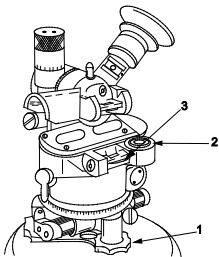

Figure 8. Leveling the Aiming Circle.
1. Turn Aiming Circle leveling screw knobs (Figure 8, Item 1) until the bubble is centered in the circular level (Figure 8, Item 2).
4. Uncover main housing tube level (Figure 8, Item 3). Adjust leveling screw knobs until bubble in main housing tube level (Figure 8, Item 3) is centered.
5. Turn Aiming Circle in azimuth and watch the bubble in the main housing tube level (Figure 8, Item 3). The bubble must stay centered while the Aiming Circle is turned through 6400 mils. Spot check at 1600-mil intervals.
6. If the bubble in the main housing tube level (Figure 8, Item 3) does not stay centered, turn leveling screw knobs (Figure 8, Item 1) to center bubble in main housing tube level (Figure 8, Item 3).
7. Turn Aiming Circle in azimuth to another azimuth setting. Again, turn leveling screw knobs (Figure 8, Item 1) to center bubble in main housing tube level (Figure 8, Item 3).
8. Repeat the turning of the Aiming Circle in azimuth and the turning of the leveling screw knobs (Figure 8, Item 1), as necessary.
10. Check elbow telescope tube level bubble (Figure 8, Item 4). Aiming Circle must be in the level position. Turn elevation knob (Figure 8, Item 1) to set elevation scale (Figure 8, Item 3) to zero. The elevation micrometer scale (Figure 8, item 2) must also read zero.
11. The elbow telescope tube level bubble (Figure 8, Item 4) should be centered.